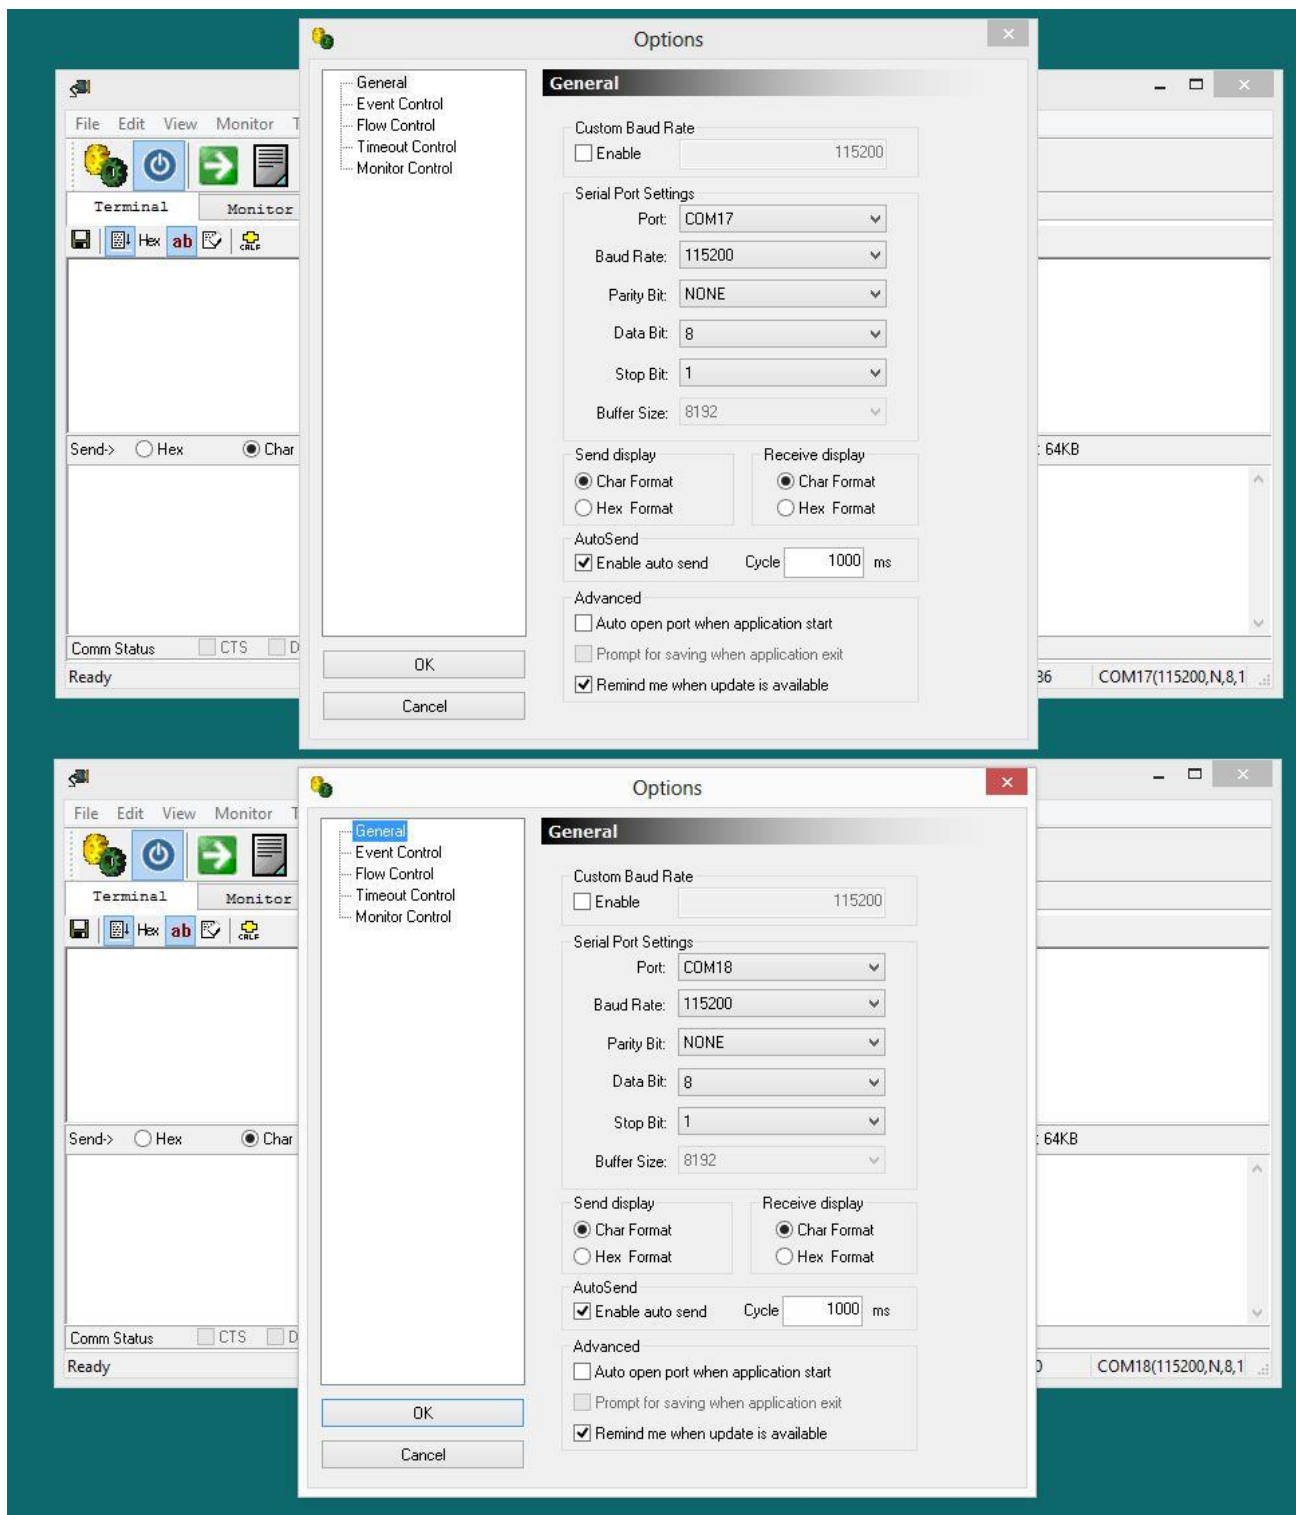

FIGURE 4.31 – ACCESSPORT SERIAL CONFIGURATION
3) In AccessPort select the yellow and green gear for each instance. Choose the COM ports and serial settings. Select “Enable Auto Send” and select OK. (SEE FIGURE 4.31).